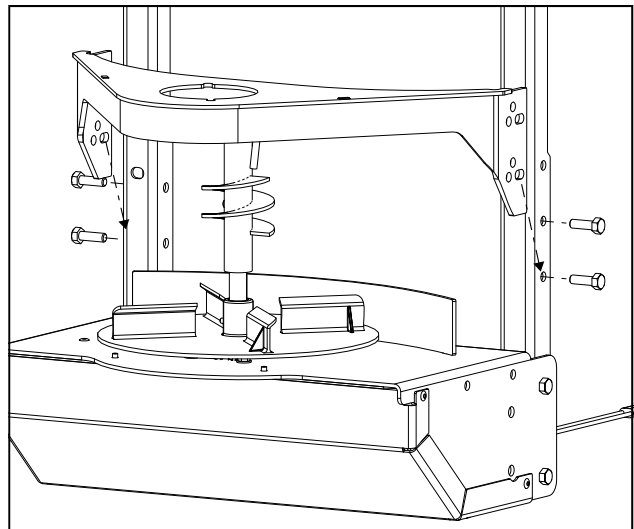

Fig 1.3
- 1.3 Mount the throat support to the support frame at the 2 lower holes by using the four supplied $5/16" \times 1"$ cap screws and $5/16"$ locknuts. Tighten the fasteners according to the torque chart. As shown in figure 1.3.